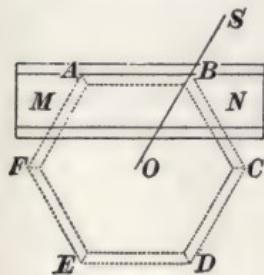

FIG. 34.
**EXAMPLE 1.**—If Fig. 34 is a regular pentagon, how many degrees are there in each interior angle?